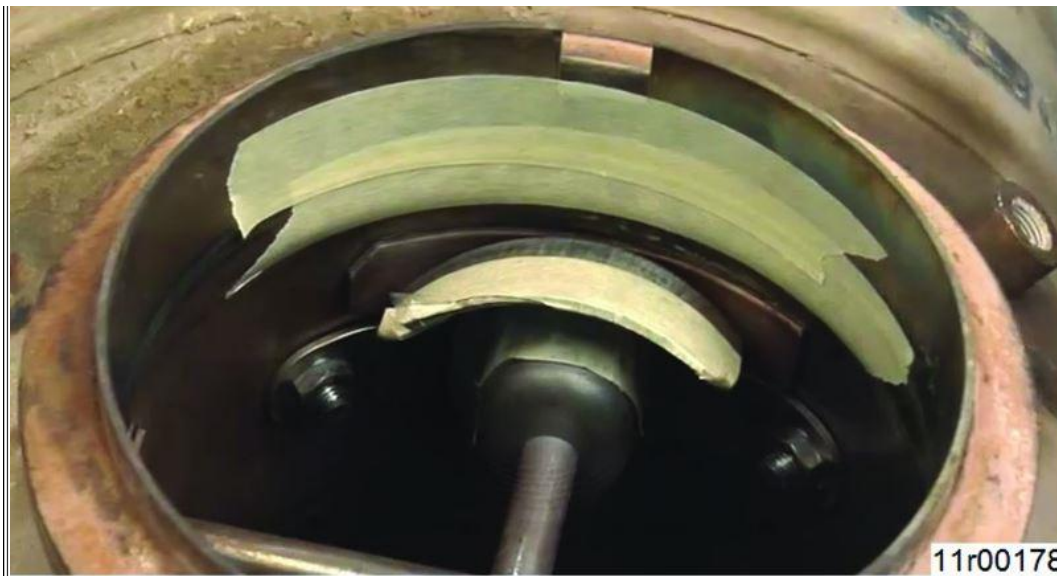

Figure 9: Masking Tape on SCR Catalyst Outlet Pipe
4. Attach masking tape to aftertreatment SCR catalyst outlet pipe. Apply masking tape 1 inch high and 4 inches wide about 1 inch above the outlet NOx sensor internal water shield as shown in Figure 9. The purpose of this masking tape is to remove excess high temp sealant.